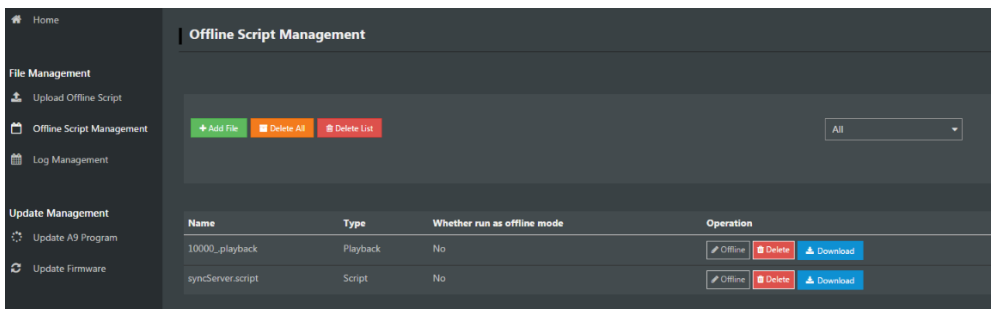

Figure 6.60 Script status
3. Select the uploaded script (syncServer.script) on the **Offline Script Management** page and click **Offline** to make the script in the offline status, as shown in Figure 6.60.